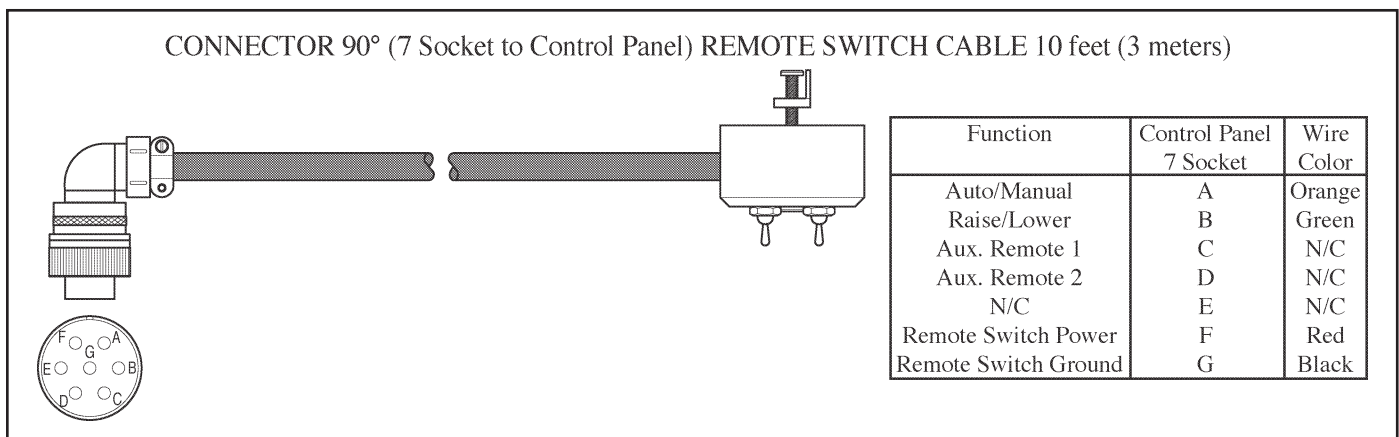

Figure 18. Remote Switch Cable Detail
7. Attach the switch end of the Remote Switch Cable at a convenient location for the operator. Connect the 7-pin remote switch connector to the 7-socket connector on the Control Panel. (Refer to Figure 18.)